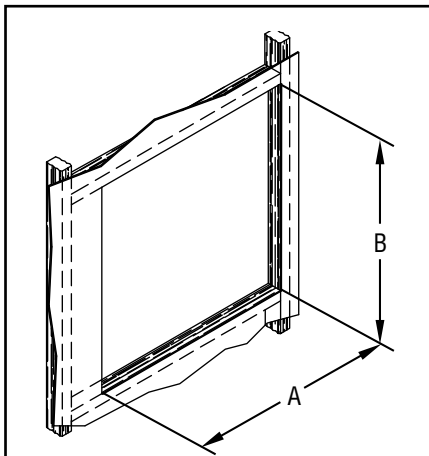

Figure 28
2. Locate the area where the chimney section is to penetrate the vertical wall studs. Cut and frame an opening so that the flue is centered between the vertical wall studs. Frame opening per **Figure 28** and **Table 4**.